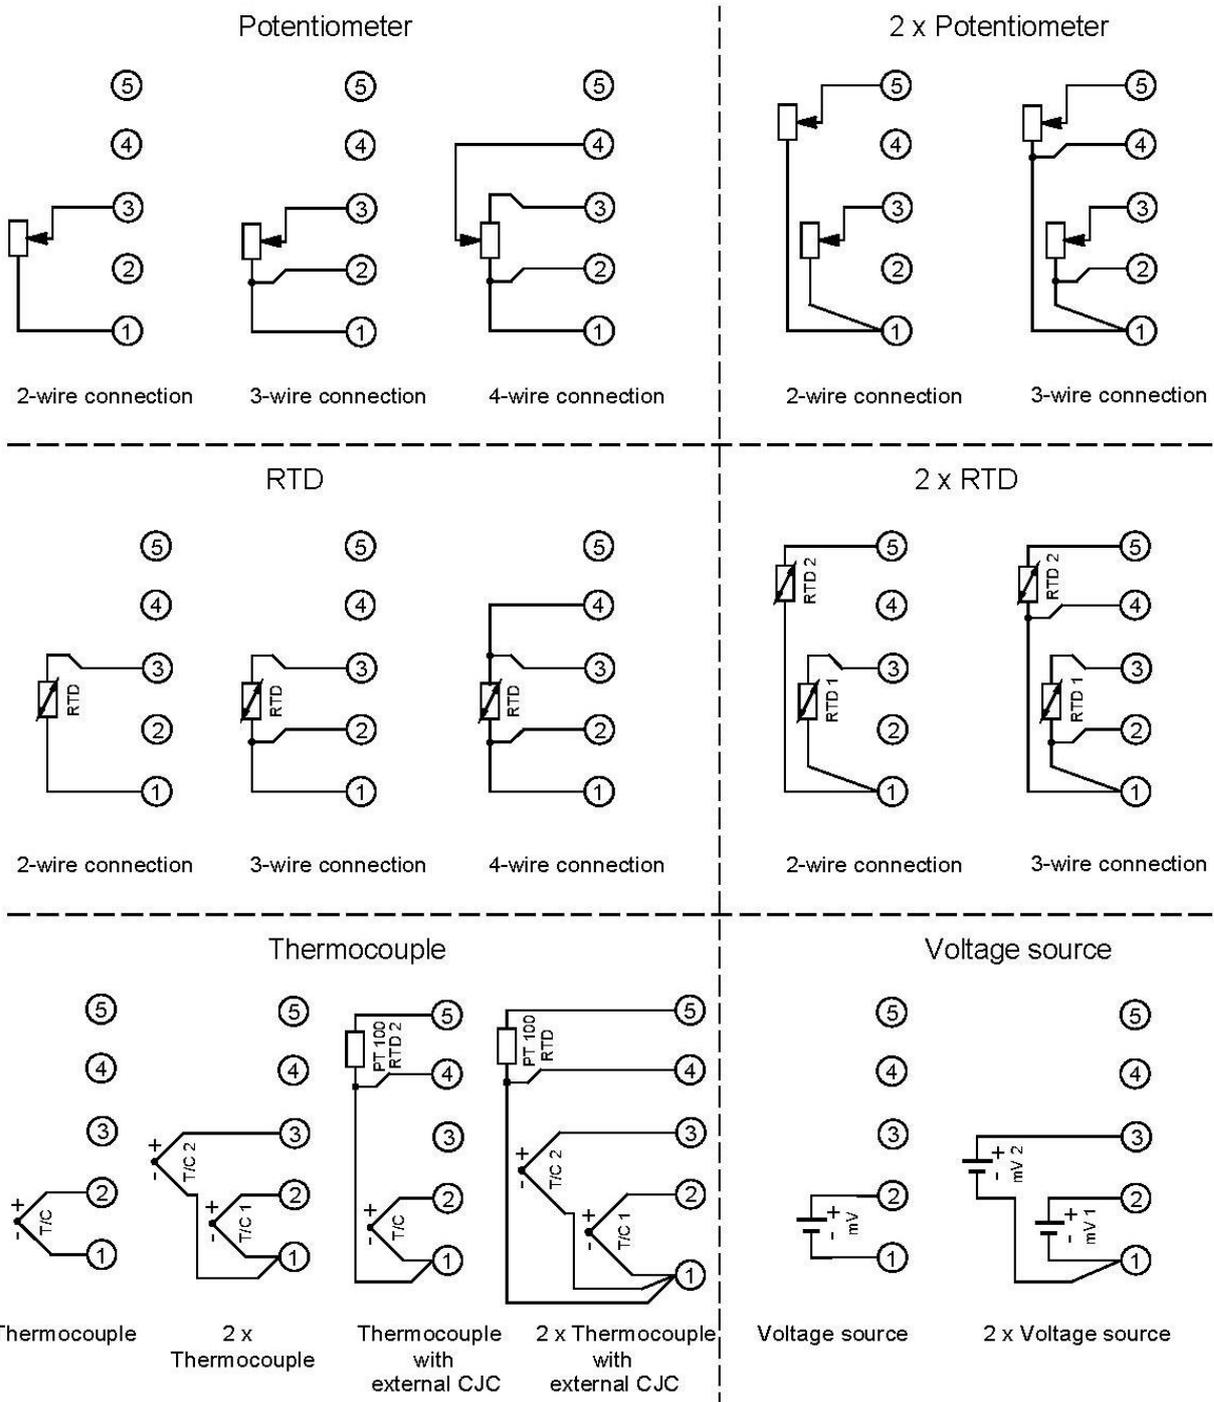

Figure 10. Methods of connecting sensors, potentiometers and voltage sources
- type of the mathematical function processing the signal from two sensors (2 x RTD 2-wire connection, 2 x RTD 3-wire connection, 2 x thermocouple, 2 x thermocouple with external CJC (see → Figure 10. Methods of connecting sensors, potentiometers and voltage sources)):